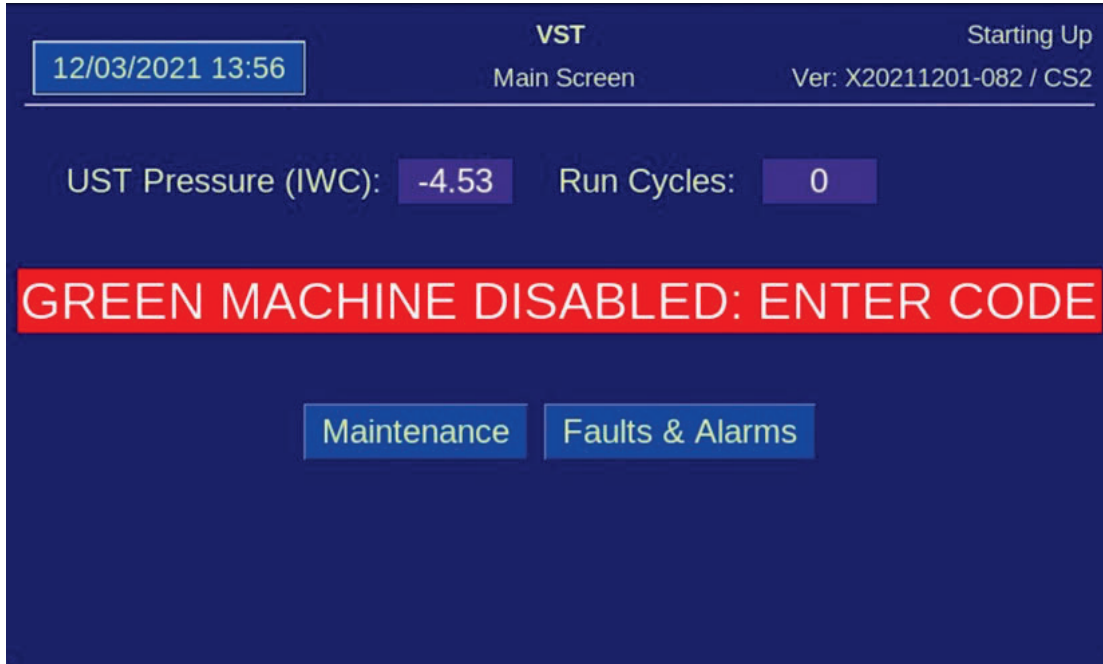

Figure 3-1: Main Screen with GREEN MACHINE DISABLED: ENTER CODE
- After the Control Panel is installed and power applied to the panel, **Figure 3-1** shows the Main Screen with the GM DISABLED – ENTER CODE label, which will be discussed later in this Chapter.
After power is turned ON to the VST Control Panel (See **Figure 3-1**), the Main Screen will show **GM DISABLED – ENTER CODE**. This means:
4. See **Figure 3-1**: VST Control Panel PLC Main Screen – GM Disabled – Enter CODE Main Screen